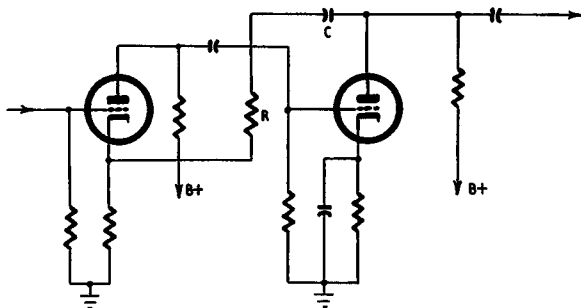

Fig. 809. The feedback components are indicated by *R* and *C*. Amplifier faults due to these parts are described in the text.
Thus, an open capacitor (C) in Fig. 809 would eliminate the boost, but would also raise gain due to loss of feedback completely;